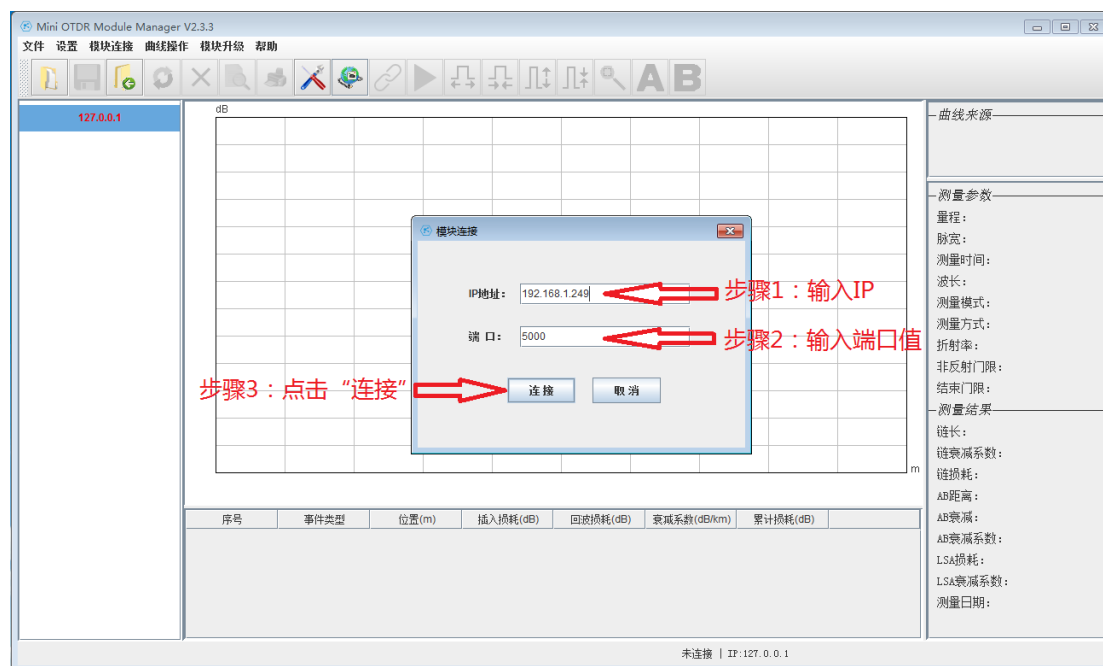

Figure 5: Diagram illustrating the software “Connect” operation
- 5) Launch the module client software ‘ ’ (Mini OTDR Module Manager V3.1.3) on a PC, and connect to the module using its IP address (default: 192.168.1.249). A diagram illustrating the ‘Connect’ operation in the software is shown in Figure 5. Once the connection has been successfully established, follow the instructions in the ‘Module Client Software (V3.1.3) Manual’ to perform testing.